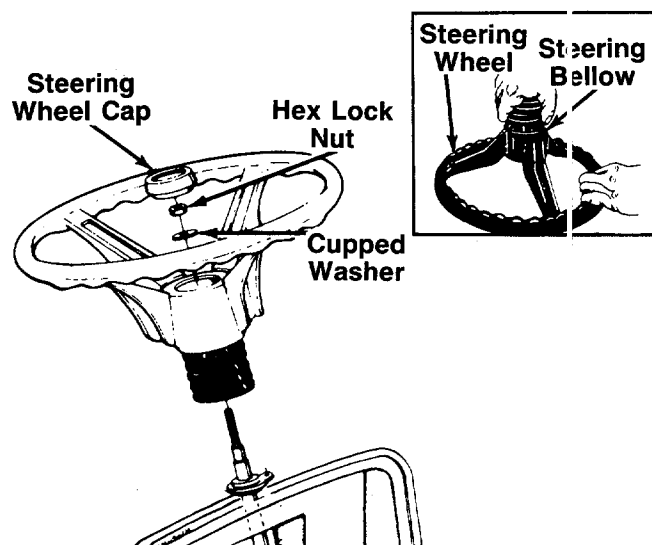

FIGURE 9.
1. Attach one end of steering bellow to the steering wheel as shown in figure 9, inset.
3. Place the washer with the cupped side down over the steering shaft. Secure with 5/16" hex lock nut. See figure 9.